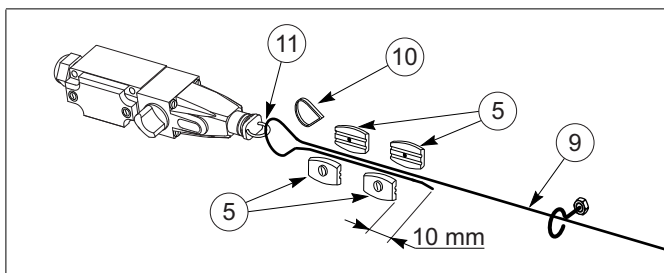

fig. 14 Mounting the cord and clamps
- See fig. 14.
Have the cord stick out 10 mm at most. See fig. 14.